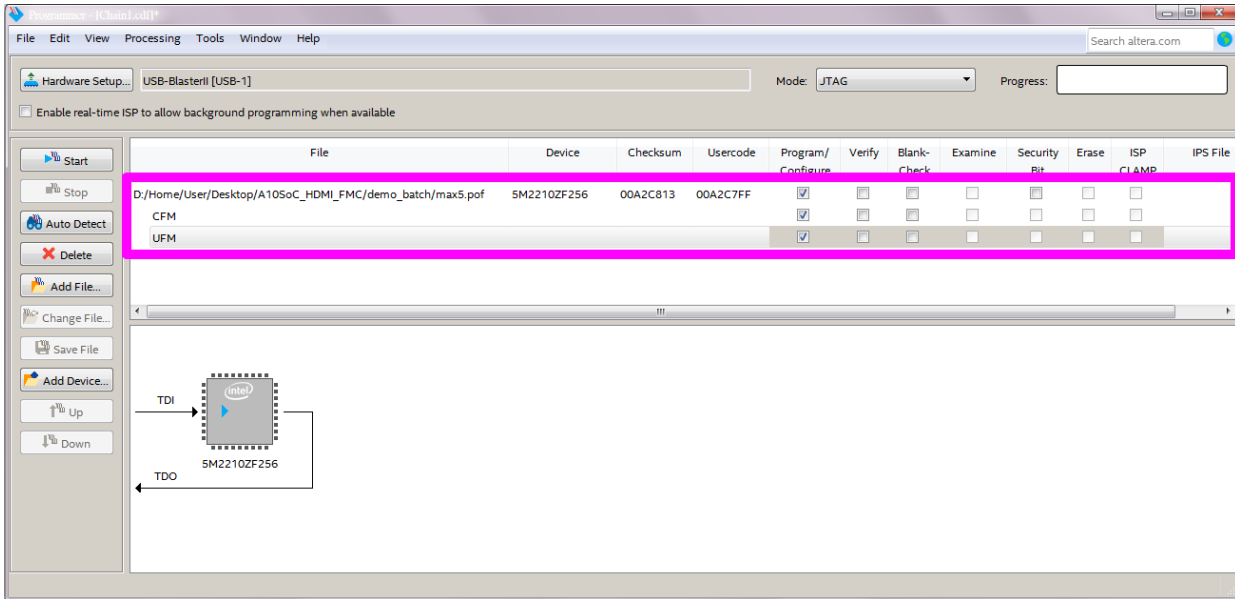

Figure 4-10 Select the max5.pof file
- Select the max5.pof file (in the ...\A10SoC_HDMI_FMC\demo_batch folder) into the MAX V device, see **Figure 4-10**.